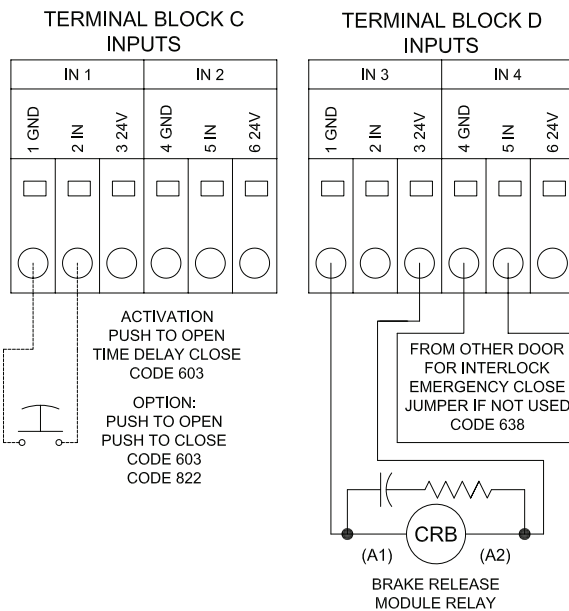

Figure 31: Electrical Input Connections
3. Connect wiring from wall mount push plates as shown in Figure 31.